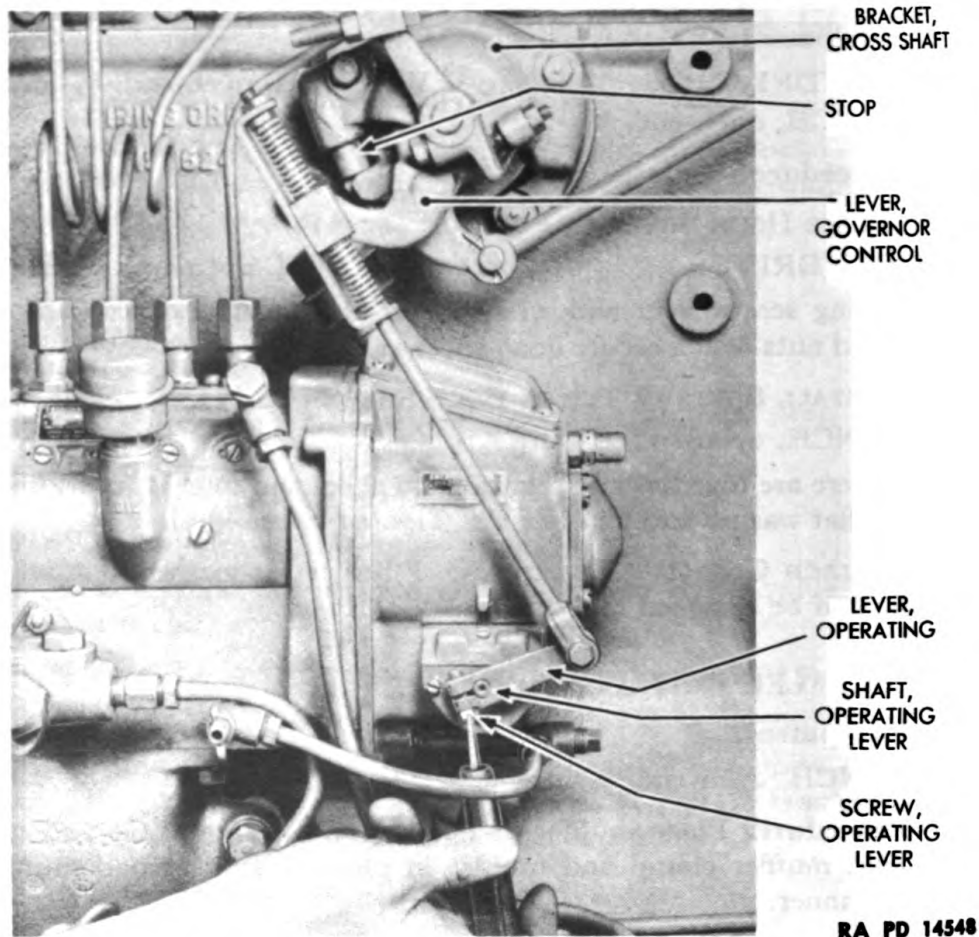

Figure 192—Adjusting Operating Lever for Idling Position
(1) START ENGINE AND OPERATE IT ON DIESEL CYCLE.
(2) SET THROTTLE CONTROL TO IDLING SPEED (fig. 192). At idling speed—425 revolutions per minute—finger on governor control lever should just contact stop in cross shaft bracket.
(3) ADJUST OPERATING LEVER (fig. 192).